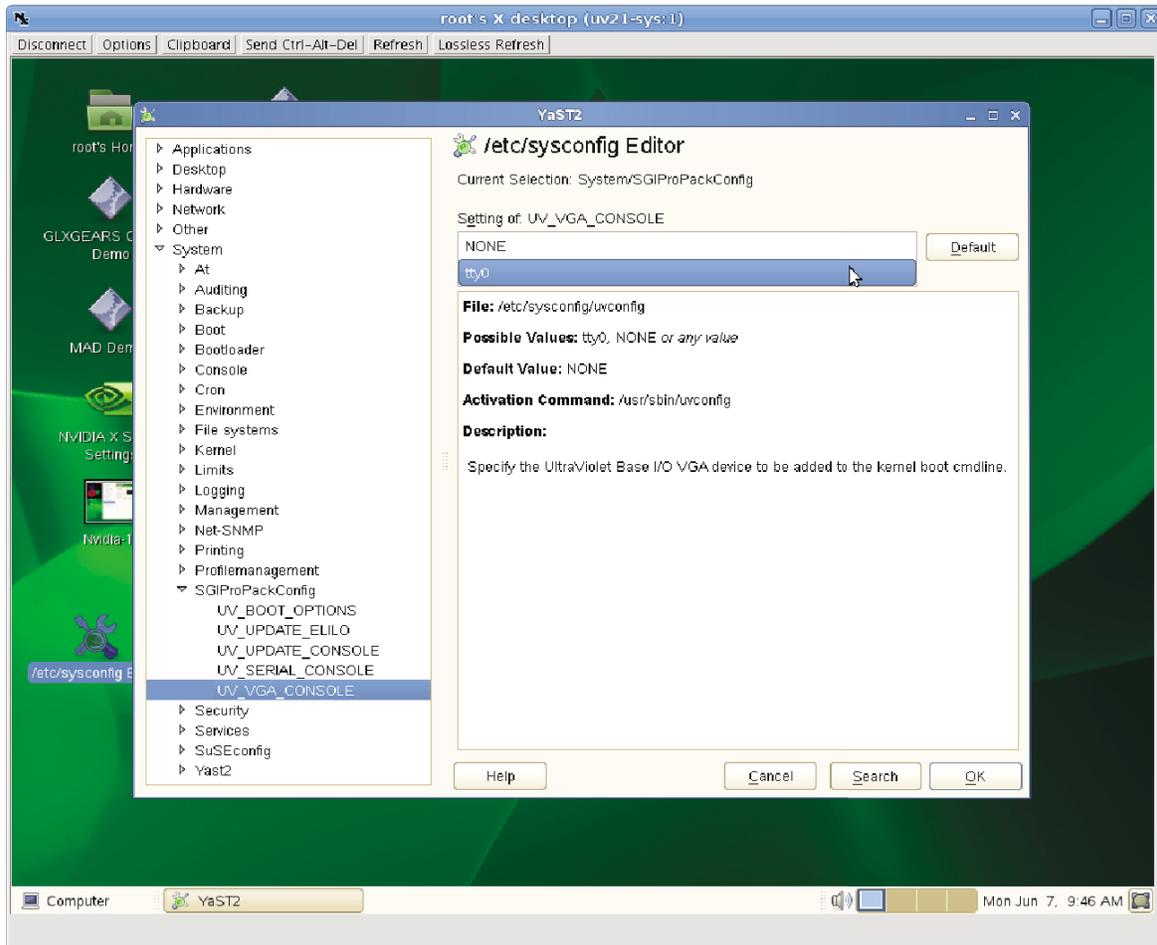

Figure 2-9 UV_VGA_Console Selection
10. Specify that the Altix UV BaseIO VGA device be added to the kernel boot cmdline, as shown in Figure 2-9 on page 36.